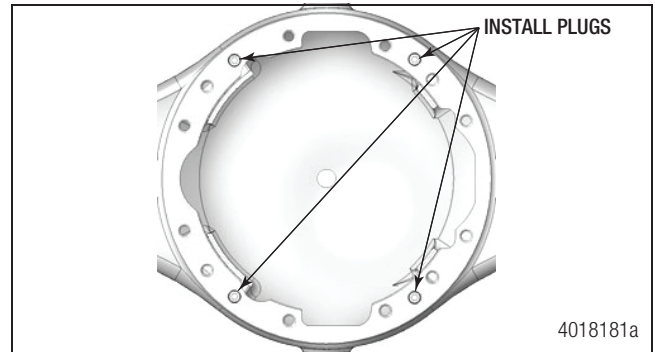

Figure 2
4. Apply Loctite 243 to the 4 carrier mounting plugs (S-8105) and install into the housing surface to reduce the number of mounting holes. Figure 2.